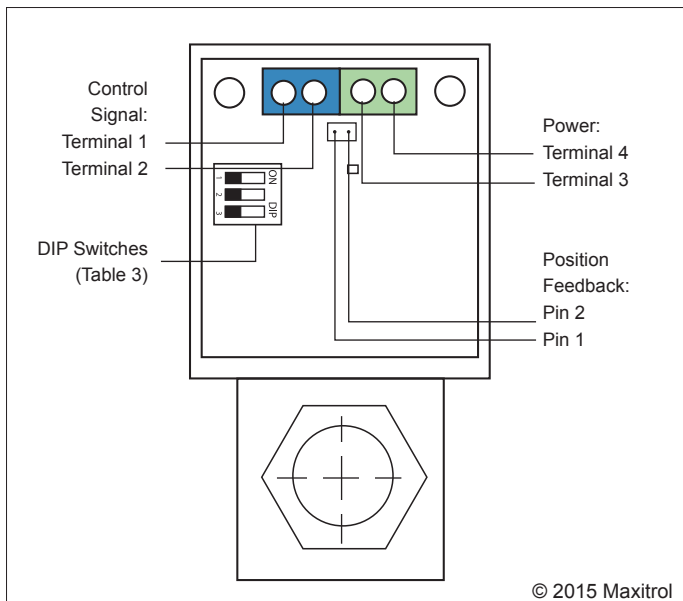

Figure 2: EXA STAR Modulating Valve Series Connections
There are six (6) electrical connections on the EXA valve. Two (2) for power, two (2) for the control signal, and two (2) for position feedback (see Figure 2, page 2).
A three (3) position DIP switch is located on the PCB (see Figure 2). Change the signal type and offset by changing the position of DIP switches. (For DIP switch position and corresponding current/voltage ranges, see Table 3).
(see Figure 2)
- Step 1: Remove two (2) screws holding cover.
- Step 3: Connect 24V (AC/DC) power source to terminals 3 and 4. Note polarity when using a DC power source or if one leg of an AC transformer secondary is externally grounded or is sharing power with another half-wave device (see Figure 2, page 2).
NOTE: The return, or signal ground, must be connected to terminal 2 (see Figure 2, page 2).